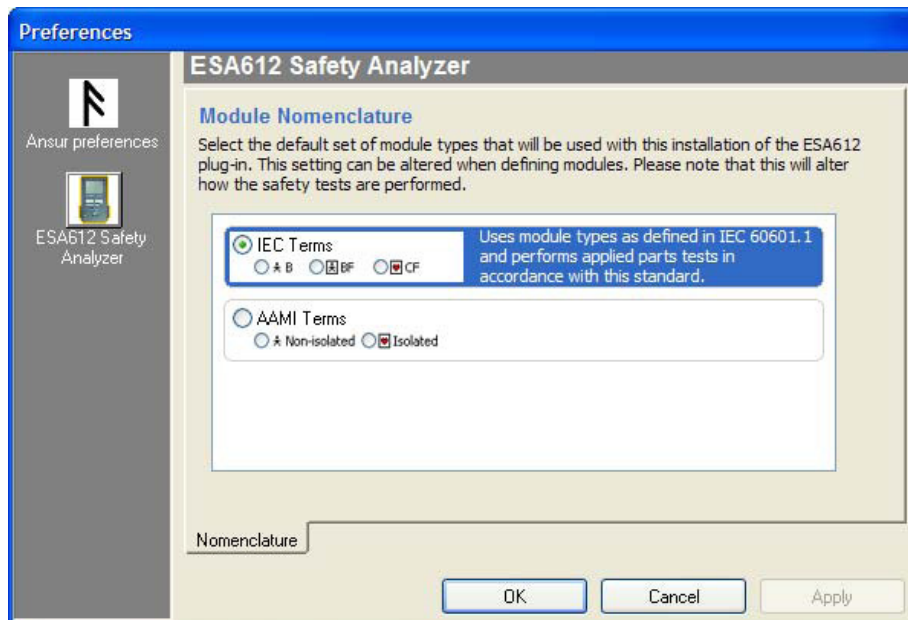

Figure 2-4. Selecting AAMI Nomenclature
4. Click **AAMI Terms** to highlight AMMI terms and the description. See Figure 2-4.